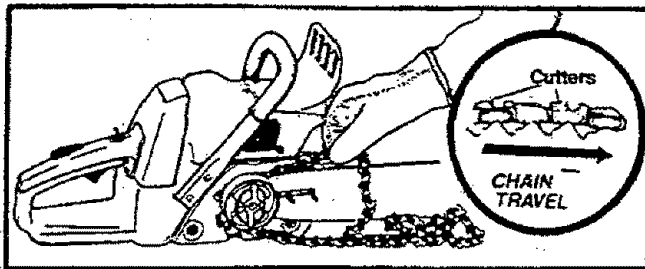

Figure 9
4. Hold chain with cutters facing as shown in Figure 9.
6. Start at the top of the bar and fit the chain drive links into the groove around the guide bar. Figure 9.